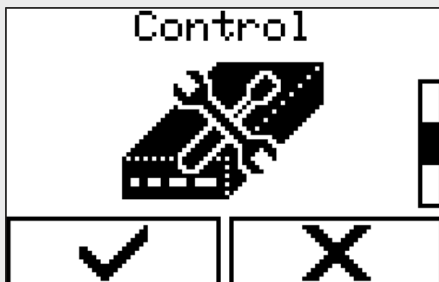

Fig. 33: 'Control' menu
- ⇒ The menu item *'Control'* (Fig. 33) has been selected.